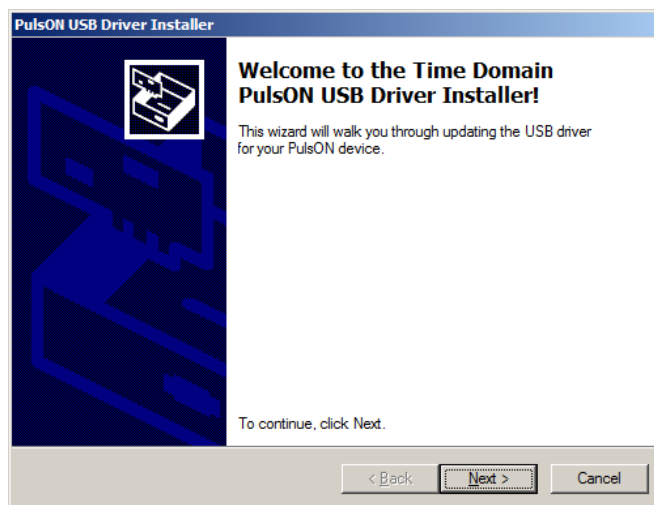

Fig. 4: USB driver installation screen
8. During the RangeNet RET installation process, the USB drivers will be loaded. This process starts when the screen shown in **Figure 4** appears.